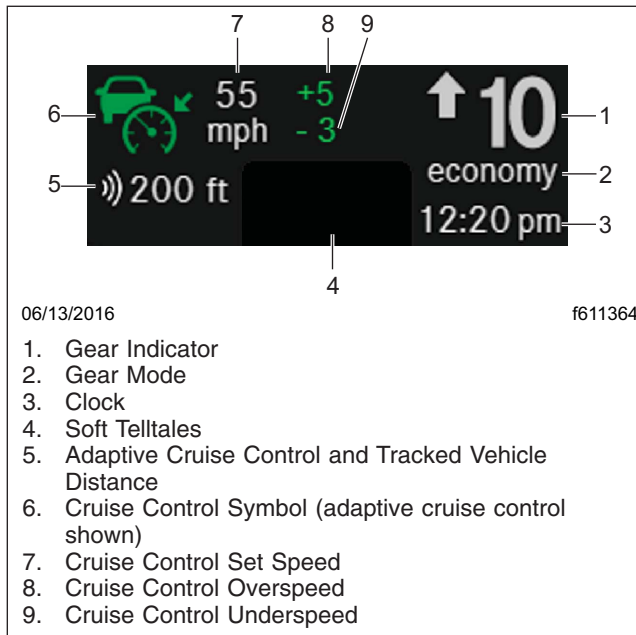

Fig. 7.3, Static Menu - ICUC
- **Cruise Decelerate/SET Button**—Press to set the cruise speed while the vehicle is traveling at the desired speed. Press and hold to decrease the set cruise speed by 5 mph increments (Detroit Diesel engines only). Single press decreases cruise speed by 1 mph. When cruise control has been set, the driver display static menu in the ICUC shows relevant cruise control icons and the set speed. See Fig. 7.3. The speed memory will be retained until the ignition is turned off.